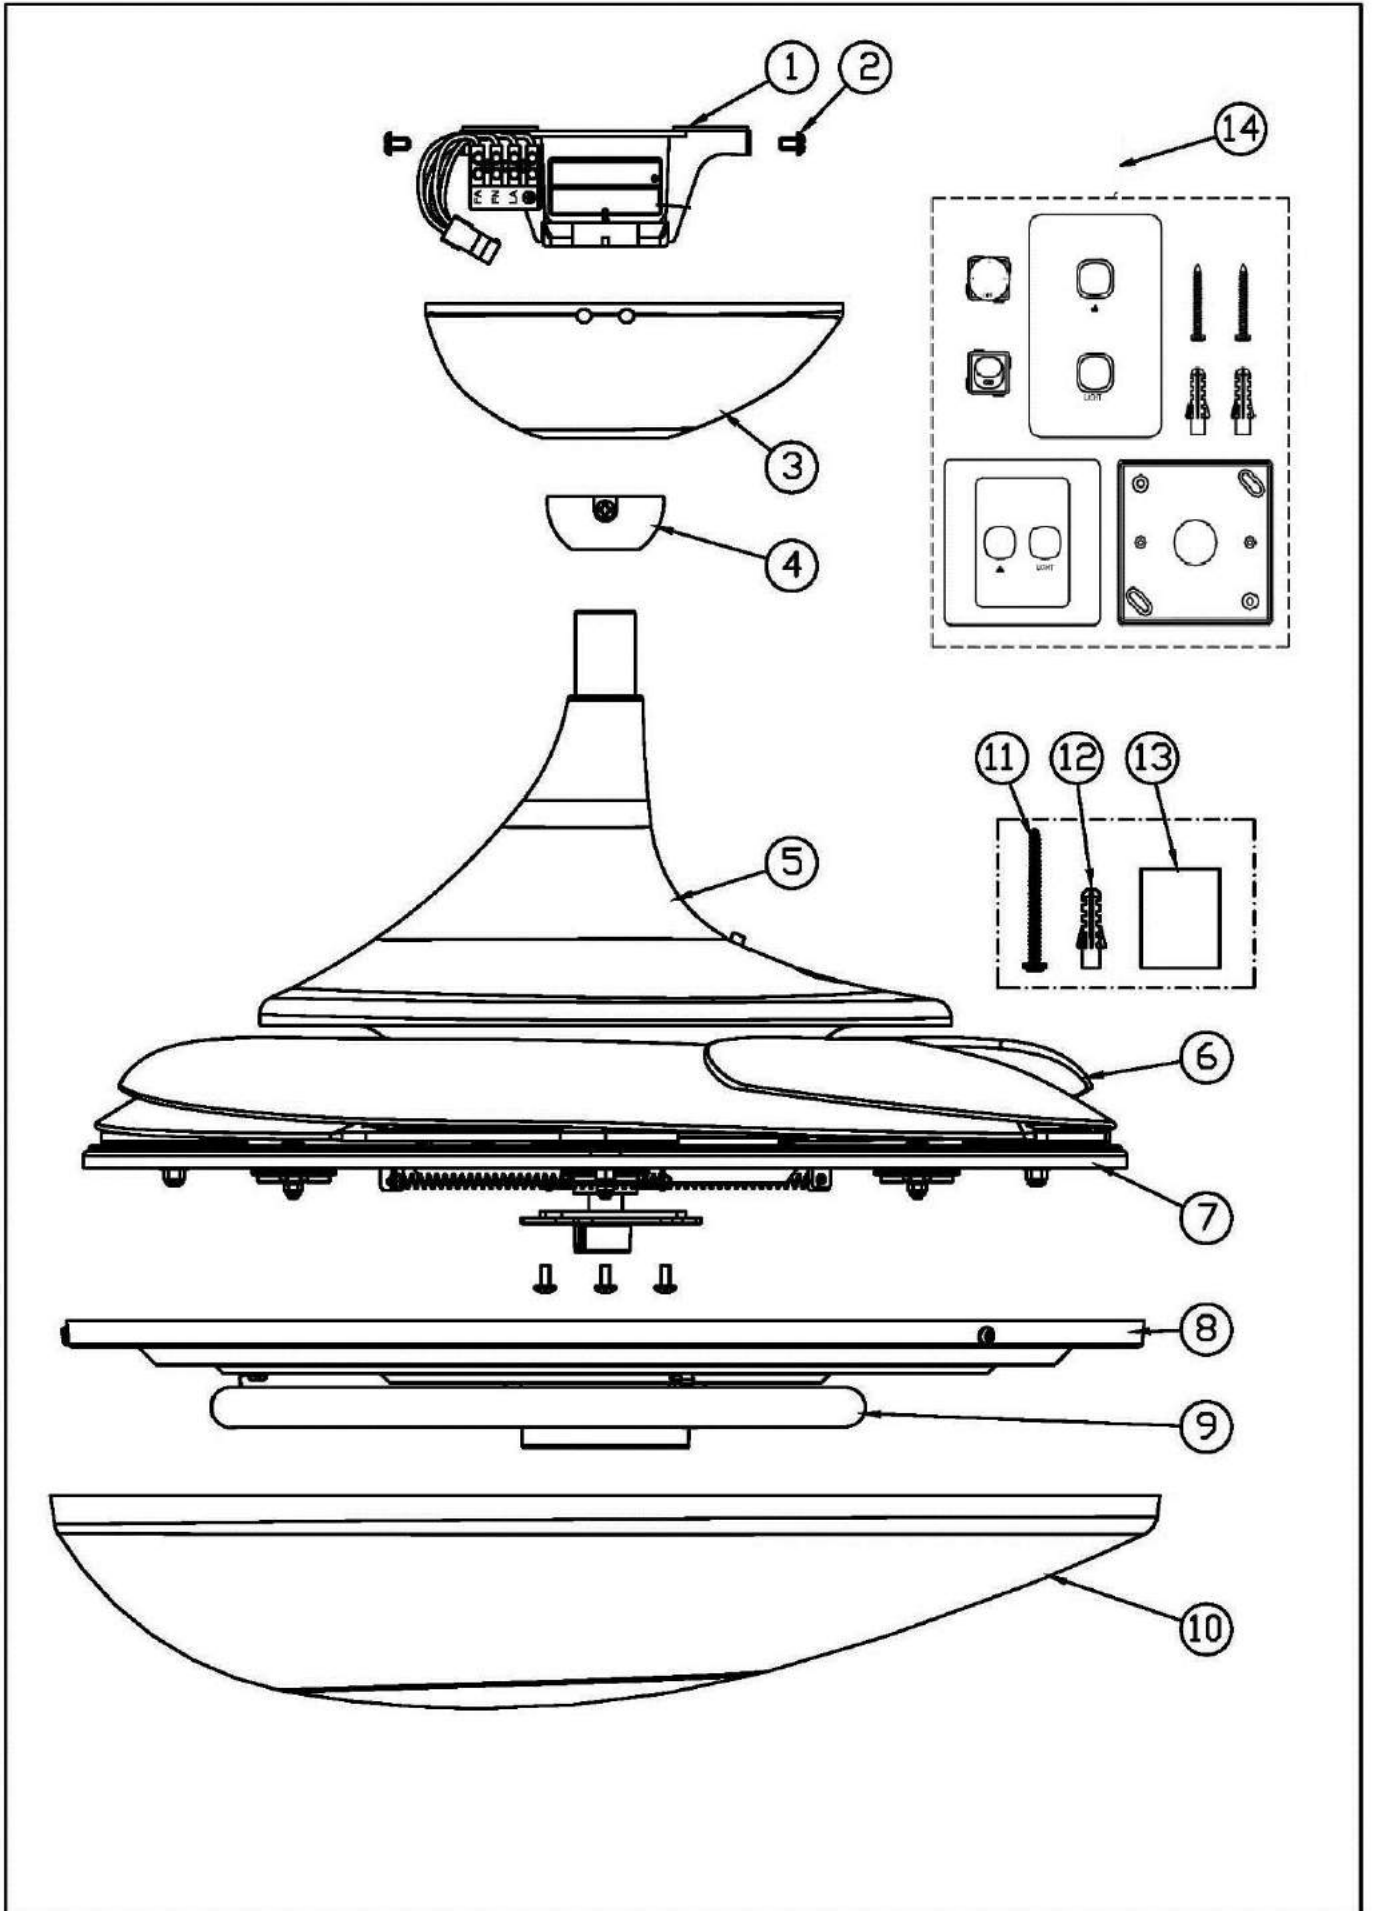

Figure 1.
Unpack the fan and carefully identify the parts. Please refer to FIGURE 1.
- 1) Remove ceiling canopy (No. 3 – Fig. 1) by loosening the 4 screws with slots.